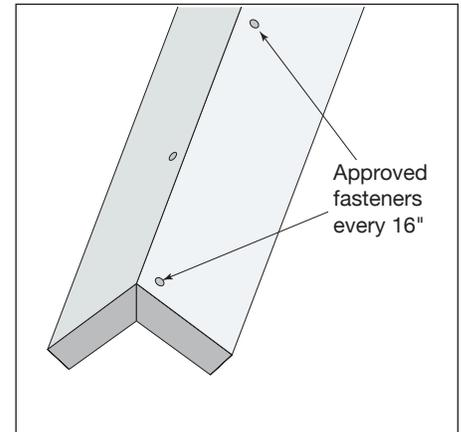

Fig. 13
- Nail the miter joint every 16 inches along the length of the trim to help ensure a tight joint as the glue dries (**Fig. 13**)